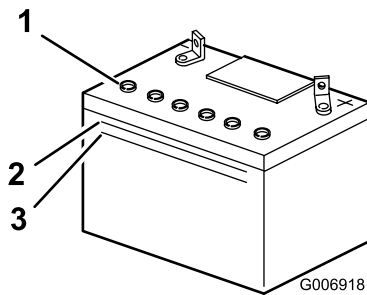

Figure 34
2. Look at the side of the battery. The electrolyte must be up to the upper line (Figure 34).
Note: do not allow the electrolyte to fall below the lower line (Figure 34).
2. Remove the filler caps (Figure 34).
3. Slowly pour distilled water into each battery cell until the level is up to the lower part of the tube (Figure 34).